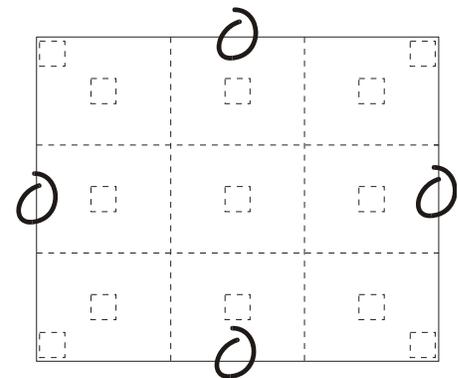

Figure 3-12 13-Point Test Pattern
3. Select the 13-Point test pattern for Full White for display. The 13-Point test pattern provides nine screen “zones” with 13 targets, see **Figure 3-12**.